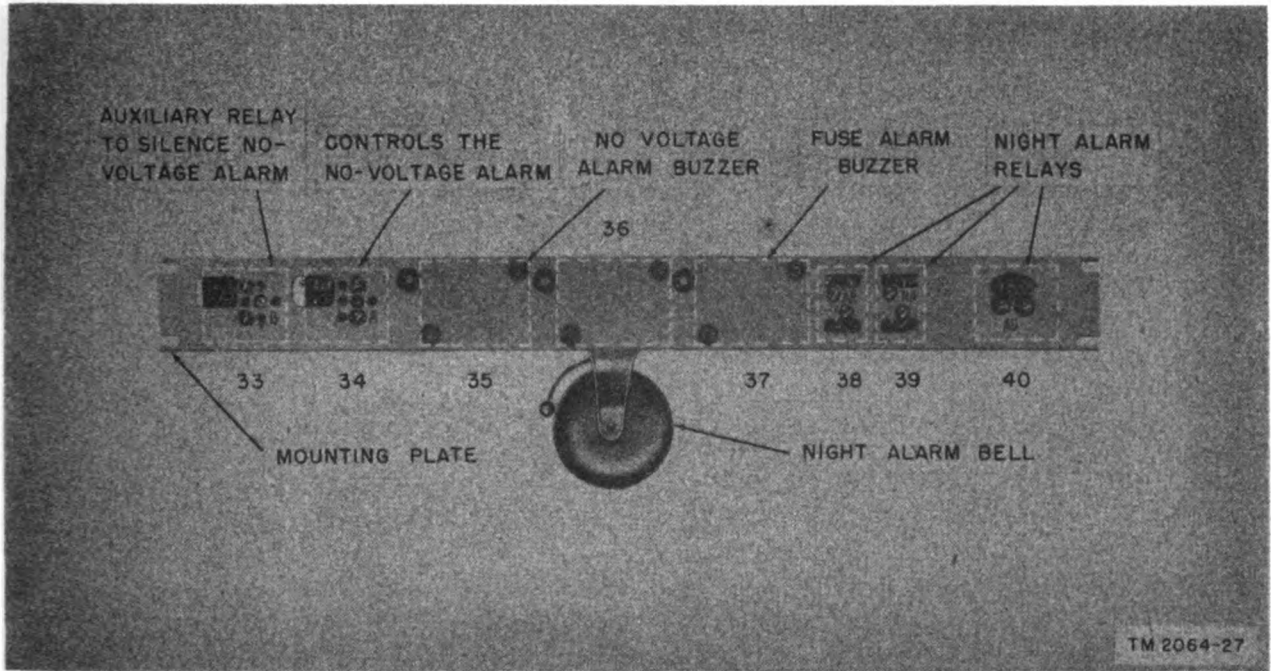

Figure 6. Mounting plate for night alarm bell, no voltage and fuse alarm buzzers, no voltage alarm, and night alarm relays.
b. NIGHT ALARM BELL MOUNTING PLATE. Upon this plate (fig. 6) are mounted in addition to the night alarm bell (from left to right) : the cut-out relay for the no voltage alarm circuit, the no voltage alarm relay, the no voltage alarm buzzer, the fuse alarm buzzer, and the AR, NA, and AU relays in the night alarm circuit.